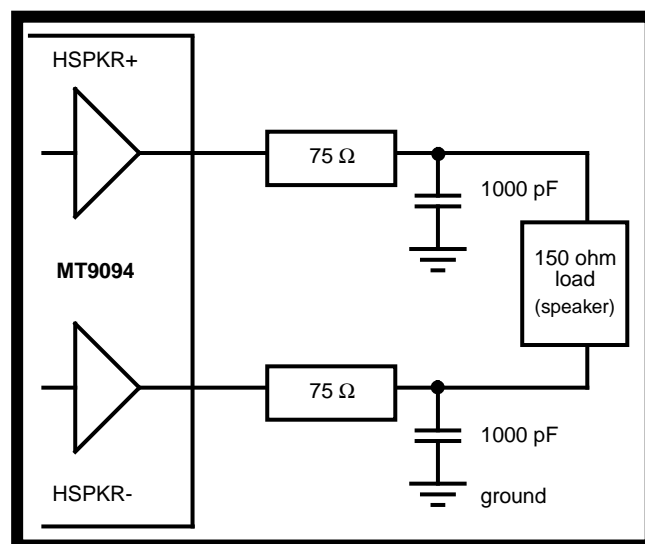

Figure 4 - Handset Speaker Driver
- ▶ The handset speaker outputs (receiver), pins HSPKR+/HSPKR-. This internally compensated, fully differential output driver is capable of driving the load shown in Figure 4. This output is enabled/disabled by the HSSPKR EN bit residing in the Transducer Control Register (address 0Eh). The nominal handset receive path gain may be adjusted to either -12.3dB (suggested for  $\mu$ -Law) or -9.7dB (suggested for A-Law). Control of this gain is provided by the RxA/ $\bar{u}$  control bit (General Control Register, address 0Fh). This gain adjustment is in addition to the programmable gain provided by the receive filter and DSP.